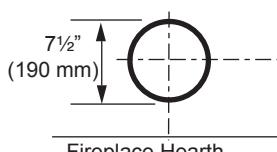

Figure 31 -
- Combustible Exterior Walls:** Cut a 9½"H x 9½"W square hole through the exterior wall frame. *Figure 31*
- The center of the hole should line up with the center line of the horizontal rigid vent pipe end. Allow 1/4" minimum rise per foot. *Figure 31*